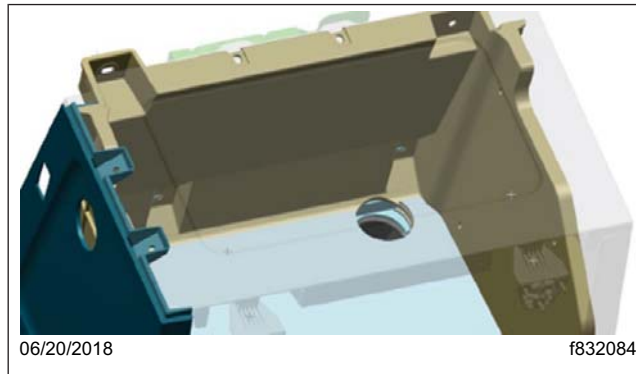

Fig. 6, Backdrilled Hole Location
6. Backdrill up to the cabinet above using a 2-9/16 hole saw. See Fig. 6 .